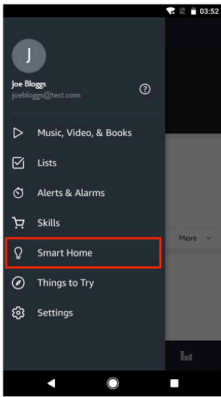
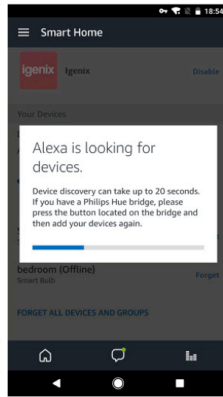

fig.20
fig.21
- Alternatively you can select in the ‘Menu’ option ‘Smart Home’ (fig. 20), and then tap ‘DISCOVER’ to discover the smart devices (fig. 21). Discovered devices will be shown in the list (fig. 22).